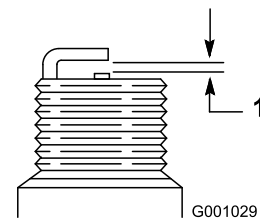

Figure 51
4. Set the gap between the electrodes on a new spark plug at 0.76 mm (0.030 inch) as shown in Figure 51.